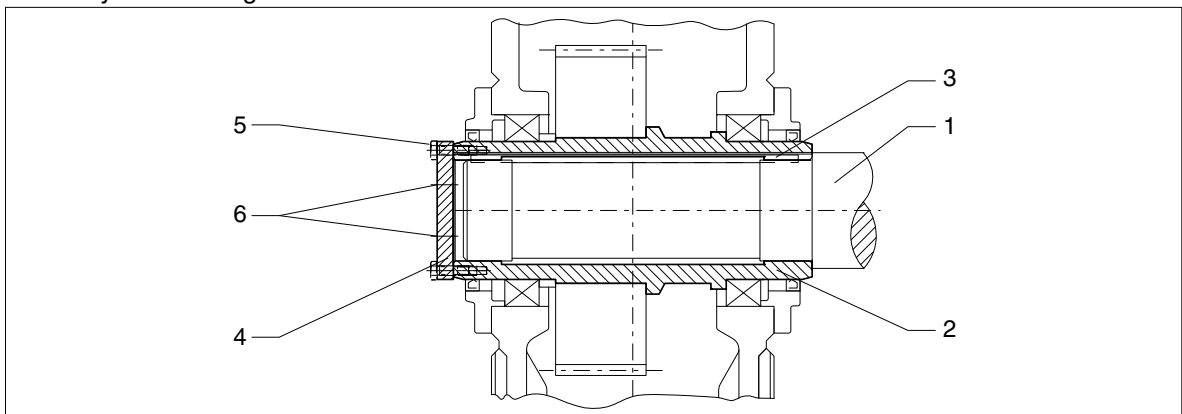

Fig. 44: Hollow shaft with parallel keyway, demounting with end plate
- using forcing screws in an end plate (see Fig. 44) or